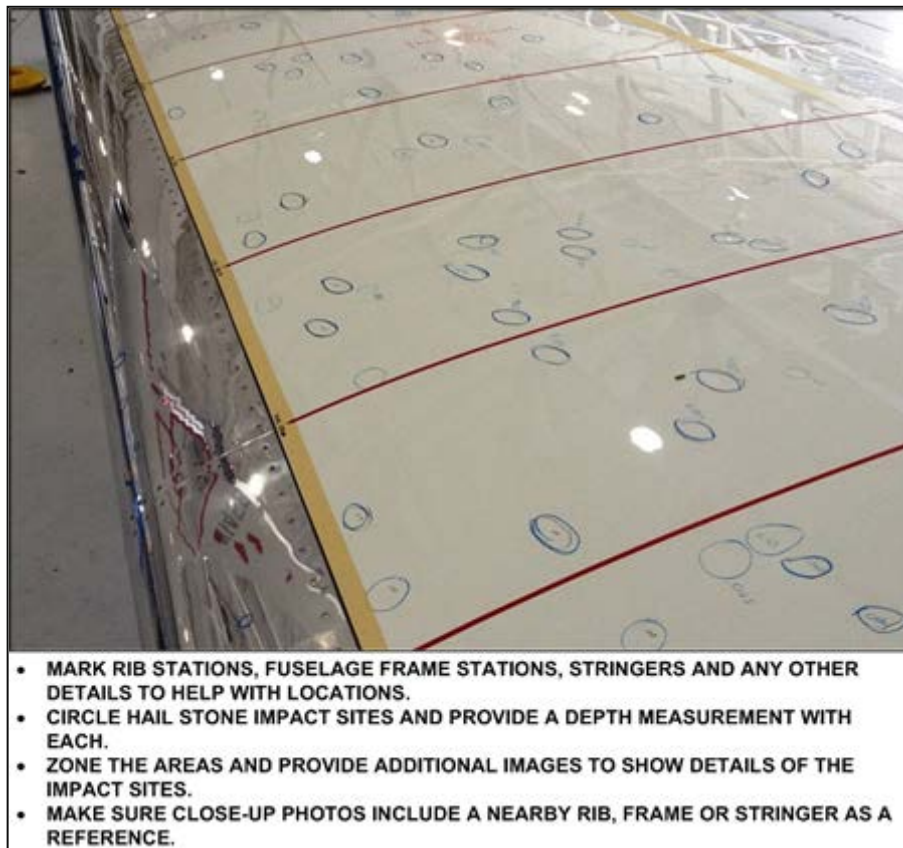

Figure 1
- 1) Record of damage – this can be in the form of a 'damage map' depicting location and depth of damage. This can be time consuming, but removes any doubt of future damage issues. Alternatively physically marking the aircraft and taking photos may be acceptable (see Figure 1).